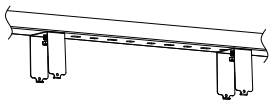

Figure 5
- Step1.Mount the bracket on the rail or ceiling; (Figure 5)